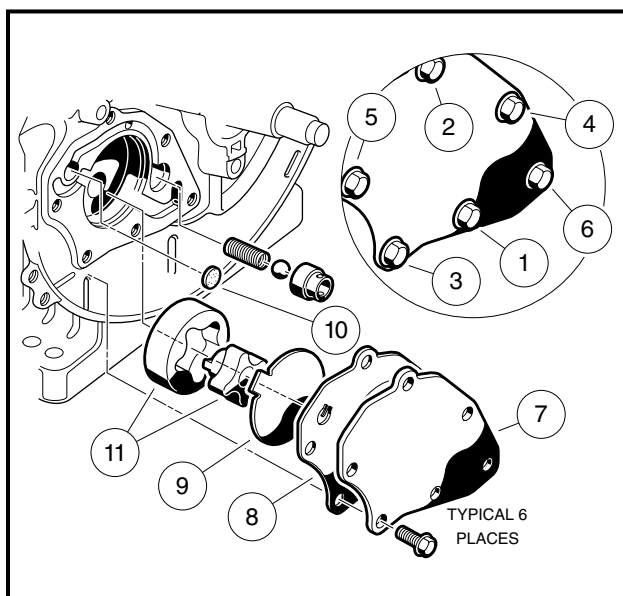

Figure 3-58 Oil Pump Removal
1. Remove the six screws (1-6) and remove the oil pump cover (7) (Figure 3-58, Page 3-29).
2. Peel off the oil pump cover gasket (8).
3. Remove the pump gear cover plate (9) and filter screen (10).
3. Remove inner and outer rotors (11) (**Figure 3-58, Page 3-29**).
3. Install six bolts (1-6) and finger-tighten. Then tighten to 7 ft-lb (9.5 N-m) in the sequence shown (**Figure 3-58, Page 3-29**). After tightening bolts, check the torque of the first bolt.